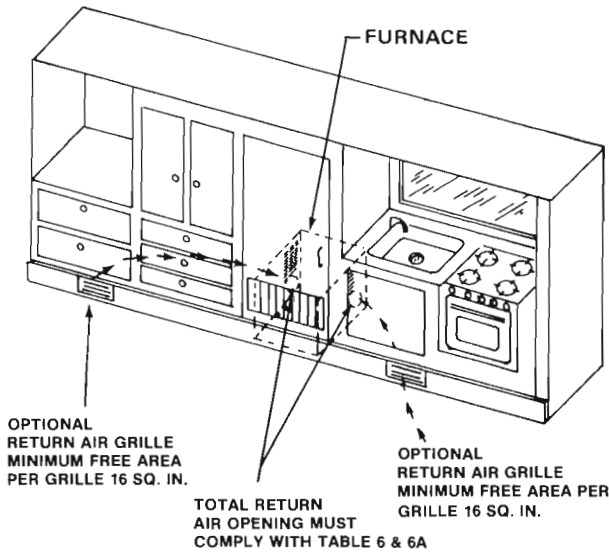

Figure 7
2. Furnaces installed in an enclosed compartment (closet, paneled alcove or cabinet and not mounted flush) and the return-air opening in the enclosing panel in front of the furnace shall comply with Table 6 and 6A (See example Figure 7).
air flow to the furnace door grille must line up directly with the furnace door grille. Additional return air must then be brought into the furnace compartment — use Table 6A and Figure 7.
*The spacing between casing and the side partition must communicate with the return opening (or openings) in the cabinet front. Figure 7.*